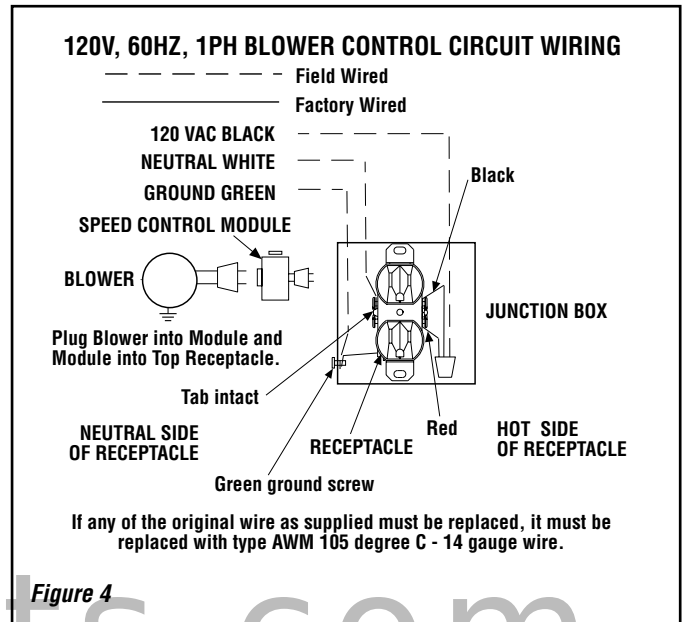

Figure 4
Step 6. If electrical power has not been provided to the unit's junction box receptacle - Route a 3-wire, 120Vac power line to the unit's junction box. Remove the receptacle by removing the two securing screws. Connect the supply wires to the receptacle as shown in *Figure 4*. Reinstall the receptacle.